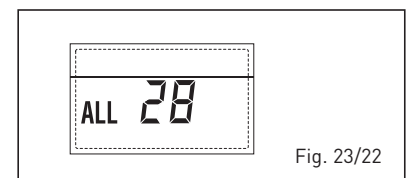

Fig. 23/22
- **ANOMALY NUMBERS RELATED BOARD “ALL 29” (fig. 23/23)**